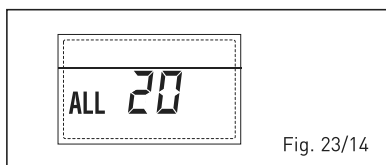

Fig. 23/14
– **ANOMALIA AVARIA SONDA IMPULSÃO PRIMEIRA ZONA MISTURADA “ALL 21”** (fig. 23/15)